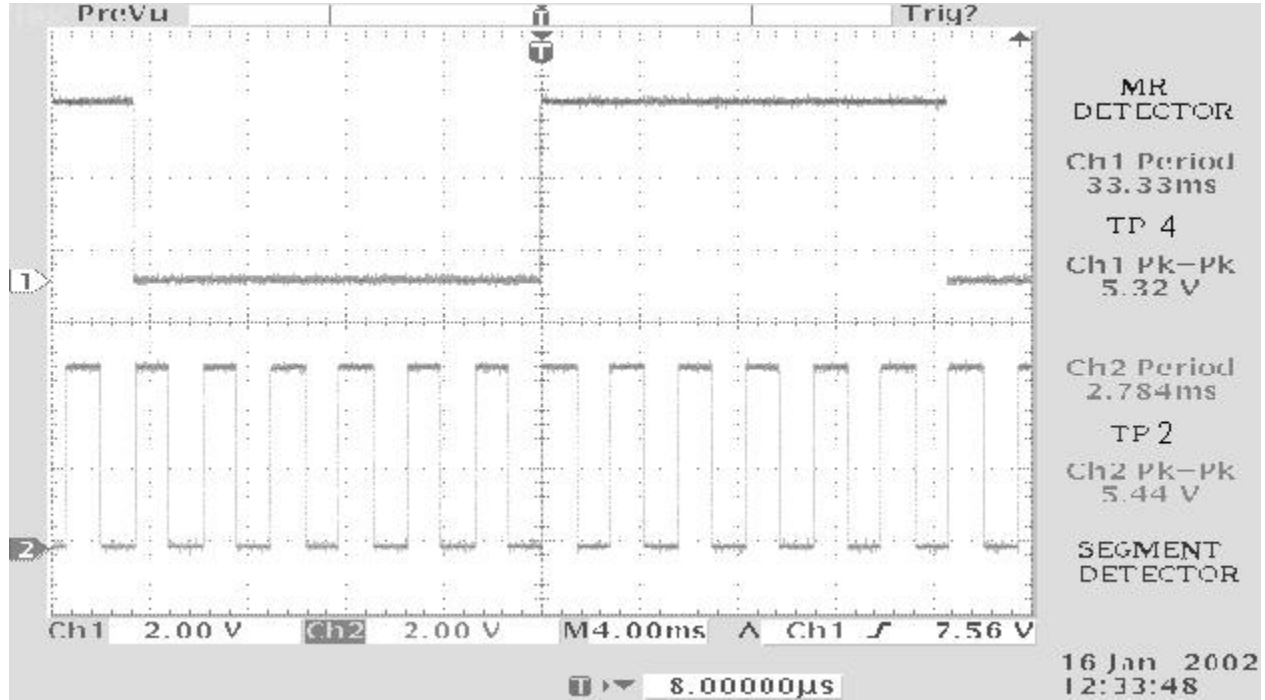

Figure 1.
6. Verify that the signals are square waves with 50% duty cycles. These are the Wheel Position and Segment LED outputs (See Figure 1).